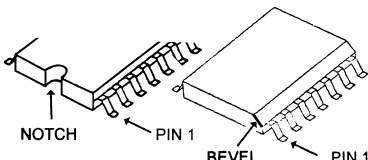

Figure 7
(See Figure 7)
- 1) Check that IC2 is not mounted backwards (see Figure 7). Be sure there are no solder bridges between the IC pins.